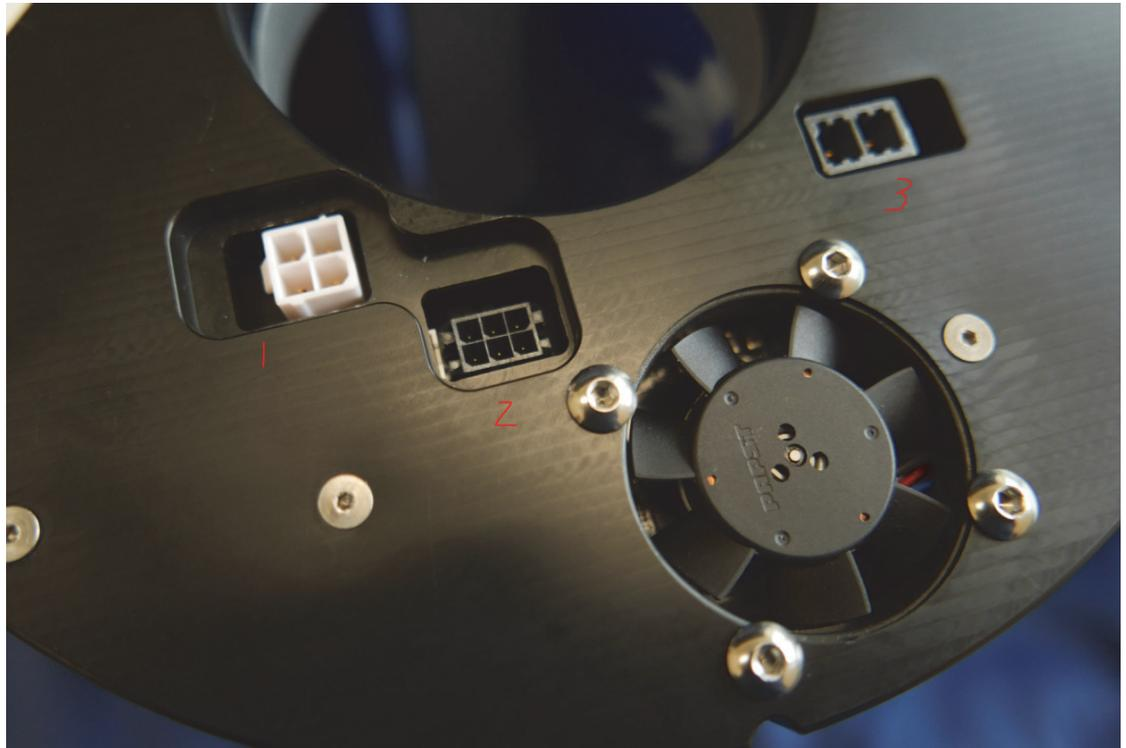

Figure 1-10 Pitch Battery Ports
The pitch battery port is shown in Figure 1-10.
6. There are two identical pairs of cables for charging the pitch and extended pitch battery packs. They each consist of a 2-pin charge cable and a 6-pin comms cable. Plug the 2-pin charge cable from one pair into the pitch battery pack charging port (see Figure 1-10 on page 1-35). Plug the 6-pin comms cable into the pitch battery pack comms port if comms are desired (remove the loopback cable during charging if installed).